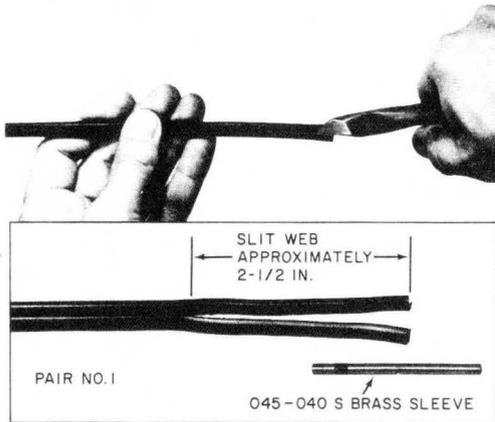

Fig. 1—Slitting Insulating Web
(1) Slide drop wire pair No. 1 halfway into jaws of diagonal pliers and cut insulation web as shown in Fig. 1.